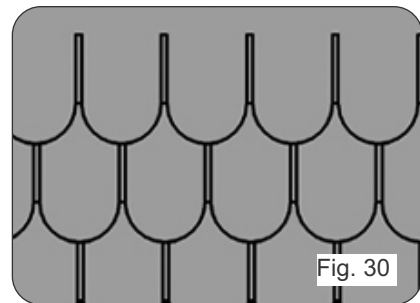

Fig. 30
- Each course of 1/2 rounds should have the center of the scallop aligned with the groove between the scallops of the course below it (Figure 30).